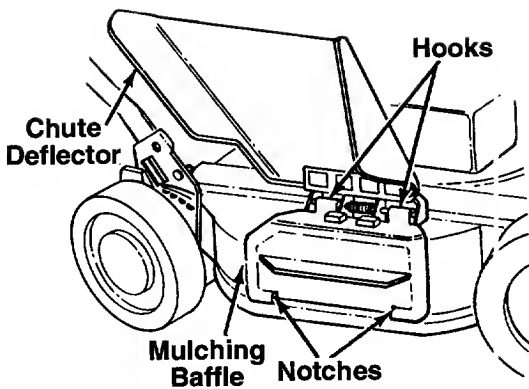

FIGURE 2.
1. Lift the chute deflector on the mower. Slide the notches in the bottom of the mulching baffle over the lip of the discharge opening. See figure 2.